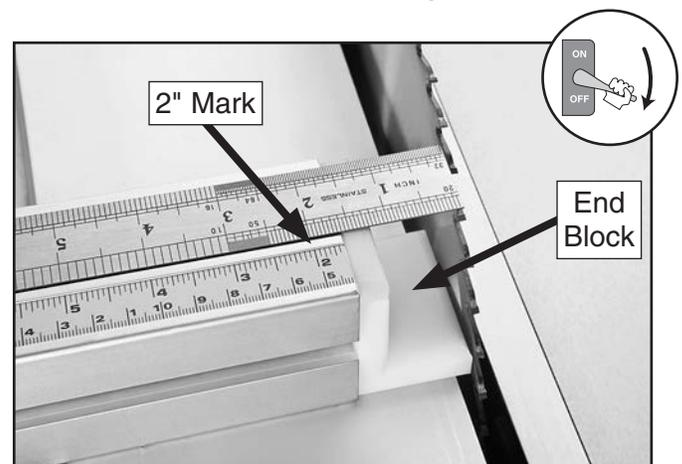

Figure 99. Setting the correct space between the crosscut fence and blade for rip cutting.
4. Use a precision ruler against a tooth of the blade, then adjust the fence so that the 2" mark on the fence scale is exactly 2" from the blade tooth, as shown in **Figure 99**.